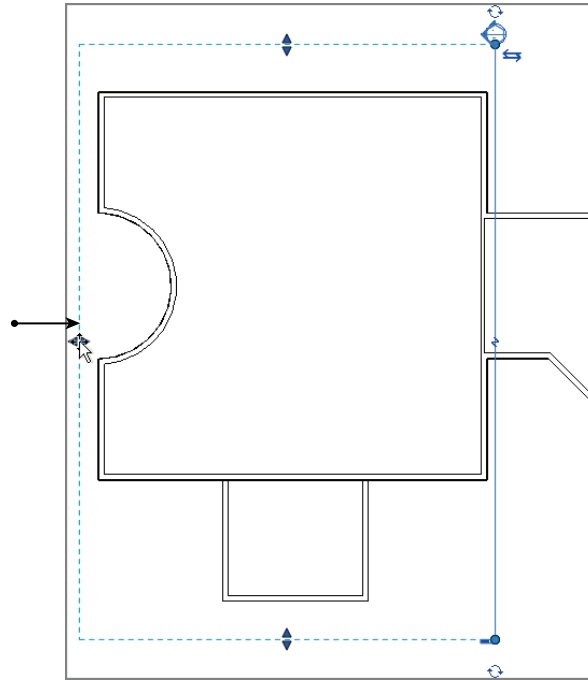

FIGURE 3.35: You can control how deep into the building you want the section to appear.
With the section flipped in the correct direction, a dashed line forms a box around part of the model, as shown in Figure 3.35. This forms the view extents of the section. Anything outside of this box won't be shown.
7. The vertical dashed line (to the left) has a move arrow. Pick the move arrow, and drag the crop region into the area shown in Figure 3.35.